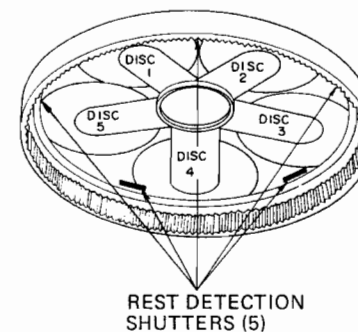

Figure 10 Shutter's Location (Bottom view)
A) Rest position detection shutters (Refer to figure 10)